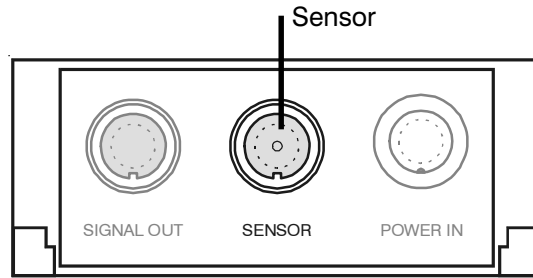

Fig. 4.6: Rear side of the controller
- Make the connection between the sensor and controller using the sensor cable (type ECM6). Connect the sensor cable at the rear side of the controller (see Fig. 4.6). Check the plugged connections for firm seating.